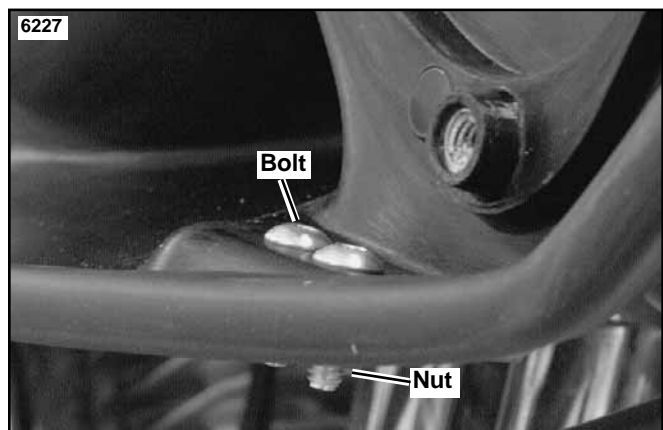

Figure 16. M2 or S3 Stock Air Cleaner Front Mount
- a. See Figure 16. Remove nuts and bolts from front mount.